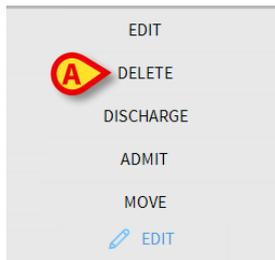

Fig 118
A menu containing various options opens (Fig 118).
- Click the **Delete** button (Fig 118 **A**)